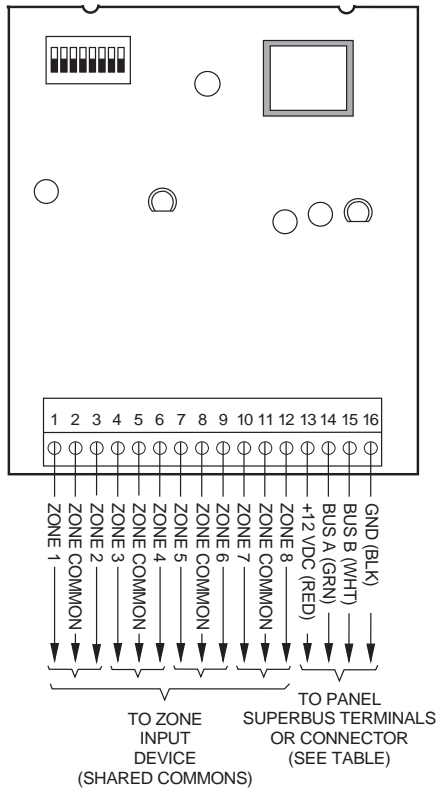

Figure 7. General Module Wiring
2. Wire the module to the panel as shown in Figure 7 and explained in Table 4.